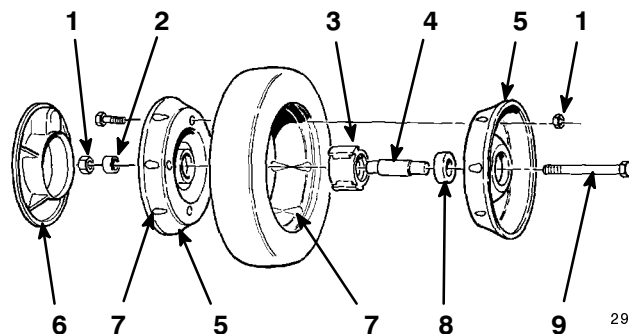

Figure 38
3. Remove the cap screw, the wheel spacer, and the locknut mounting the wheel to the pivot arm (Fig. 38).
4. Separate the wheel halves from the tire by removing four cap screws and four locknuts (Fig. 38).
Note: If you remove the bearings from the bearing/hub assembly, remove them by pressing on the bearing spacer (Fig. 38).
1. Position the tire onto one wheel half, aligning the lugs on each (Fig. 38).
2. Place the bearing/hub assembly into the center hole of the wheel half. Ensure that the legs of the hub are positioned over the flange of the hole (Fig. 38).
3. Place the other wheel half onto the bearing/hub assembly, aligning the wheel and the tire lugs and the mounting holes (Fig. 38).
4. Using two 1/4-20 x 1.50 in. (6 x 38 mm) fully threaded screws or bolts and non-locking nuts, loosely secure the wheel halves together. Mount the screws or bolts in the opposing holes (Fig. 38).
5. Check the alignment of all parts and tighten the screws, alternating from side to side for a uniform fit, until the wheel halves are drawn together (Fig. 38).
6. Install the two cap screws and two locknuts previously removed in the remaining holes in the wheel halves and tighten. Remove the two long screws or bolts and replace them with two cap screws and two locknuts (Fig. 38).
7. Install the wheel to the pivot arm with the cap screws, a spacer, and a locknut. Ensure that the spacer is positioned between the wheel hub and the pivot arm (Fig. 38).